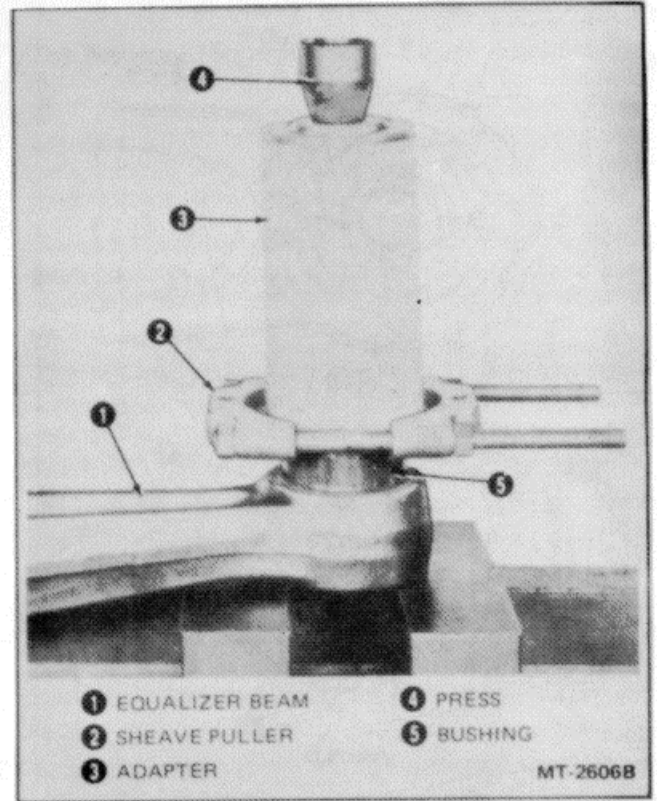

Figure 8 - Installing Equalizer Beam End Bushing
- Install sheave puller over bushing and compress rubber until puller jaws will seat on the end of the bushing sleeve. Refer to Figure 8.
4. Install sheave puller over bushing and compress rubber until puller jaws will seat on end of bushing sleeve. Refer to Figure 8.